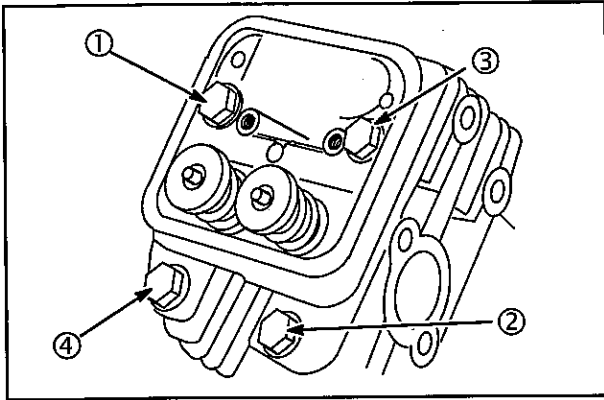

Fig. 20
1. Install cylinder head with NEW gasket, **Fig. 20**.
3. Torque bolts in the sequence shown, **Fig. 20**, to 165 in. lbs. (19 Nm).